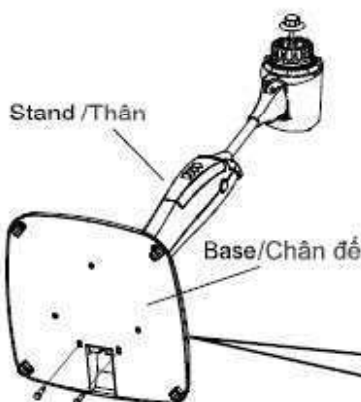

Figure 1. / Hình 1.
2. Insert the tab on the stand into the tab hole on the base, pass the power cord through the cord case hole of the base and gently fit the stand into the base. (referring to the Figure 1.)